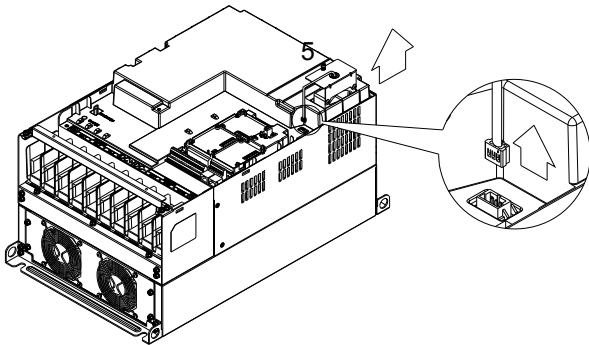

Figure 3
6. (Figure 3) Loosen screw 5 and disconnect the fan power. Screw torque: 10~12kg-cm (8.6~10.4in-lbf).